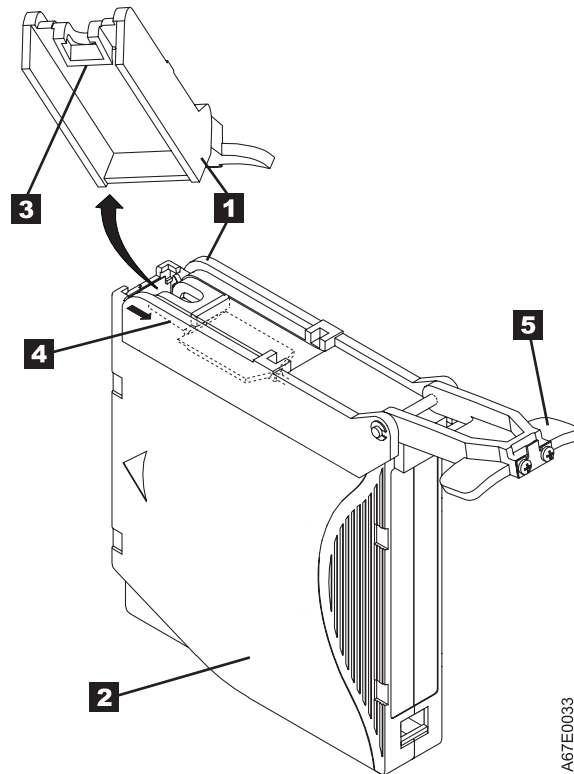

Figure 9-12. Attaching the leader pin attach tool to the cartridge. To hold the cartridge door open, hook the tool into the door and pull the tool back.
1. Attach the leader pin attach tool (1 in Figure 9-12 on page 9-15) to the cartridge 2 so that the tool's hook 3 latches into the cartridge's door 4 . Pull the tool back to hold the door open, then slide the tool onto the cartridge. Open the tool's pivot arm 5 .